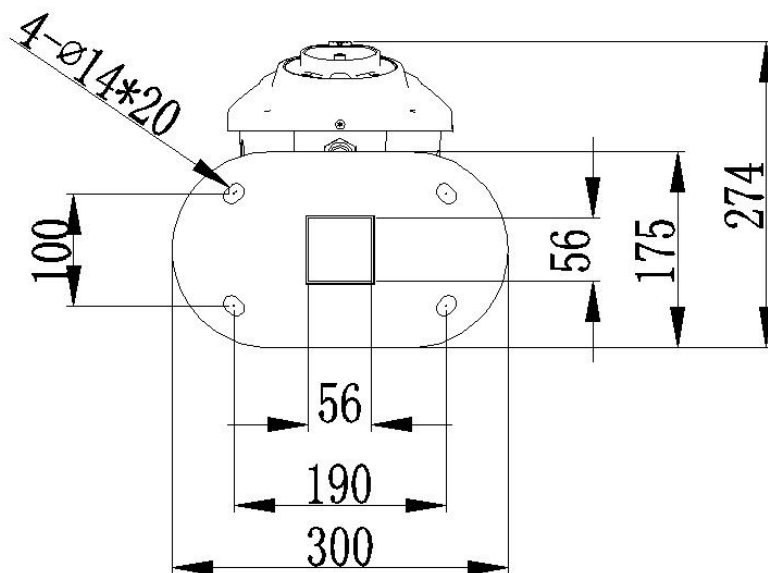

Figure 4.2-1 Hole Location of Column Base (Unit: mm)
Step 1: Determine the installation position according to the base hole location of the column, and embed and lay the cable. The length of the cable exposed to the ground shall not be less than 1500 mm. The base hole location is shown in Figure 4.2-1.